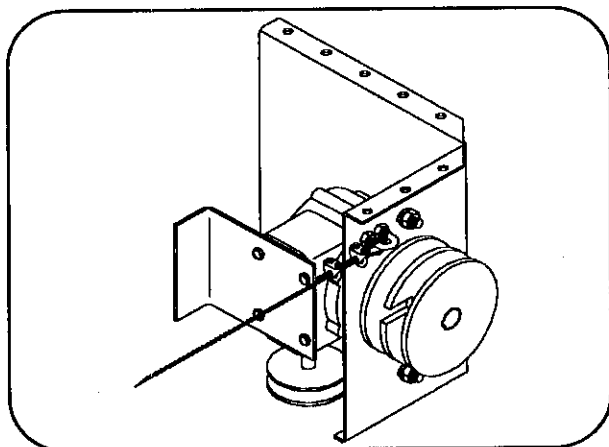

Figure 14
3. Thread the two (2) master pulleys on to the cable and then attach remaining end of loop to "U" bolt. The master pulleys must be attached to the main line cable.
4. Position the Cable Drum as shown in Figure 14. **CABLE IS NOT TO BE ATTACHED TO THE WINCH DRUM.**